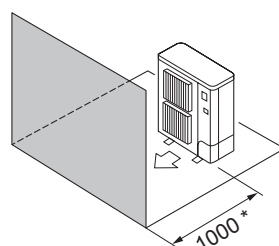

Fig. 2-10
- ④ Solo ostacoli anteriori (Fig. 2-10)